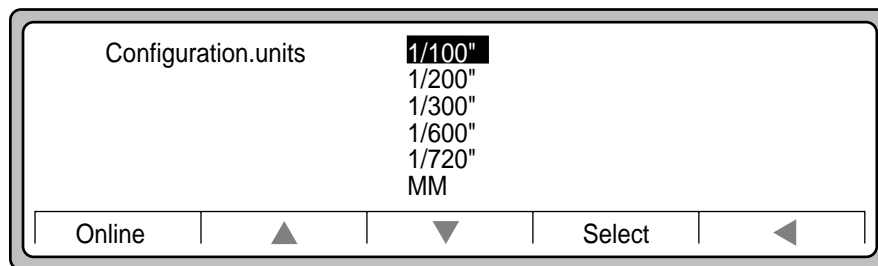

Figure 3-20 Highlighting 1/100"
11. In our example, 1/100" is highlighted (Figure 3-20).
12. Press Select. Figure 3-20 is displayed.